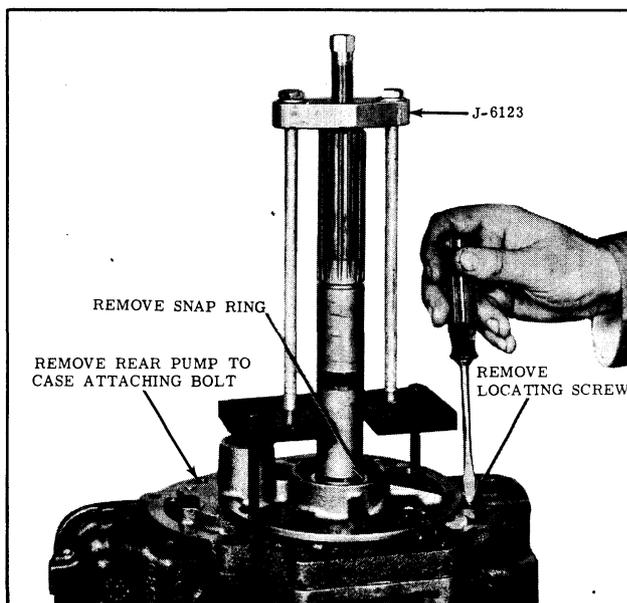

Fig. 3-38 Removing Rear Pump
7. Turn transmission to a vertical position with output shaft up and remove 2 opposite rear pump cover attaching bolts. (See Fig. 3-38) Install Tool J-6123, then remove rear pump locating screw and the 1 pump to case attaching bolt.